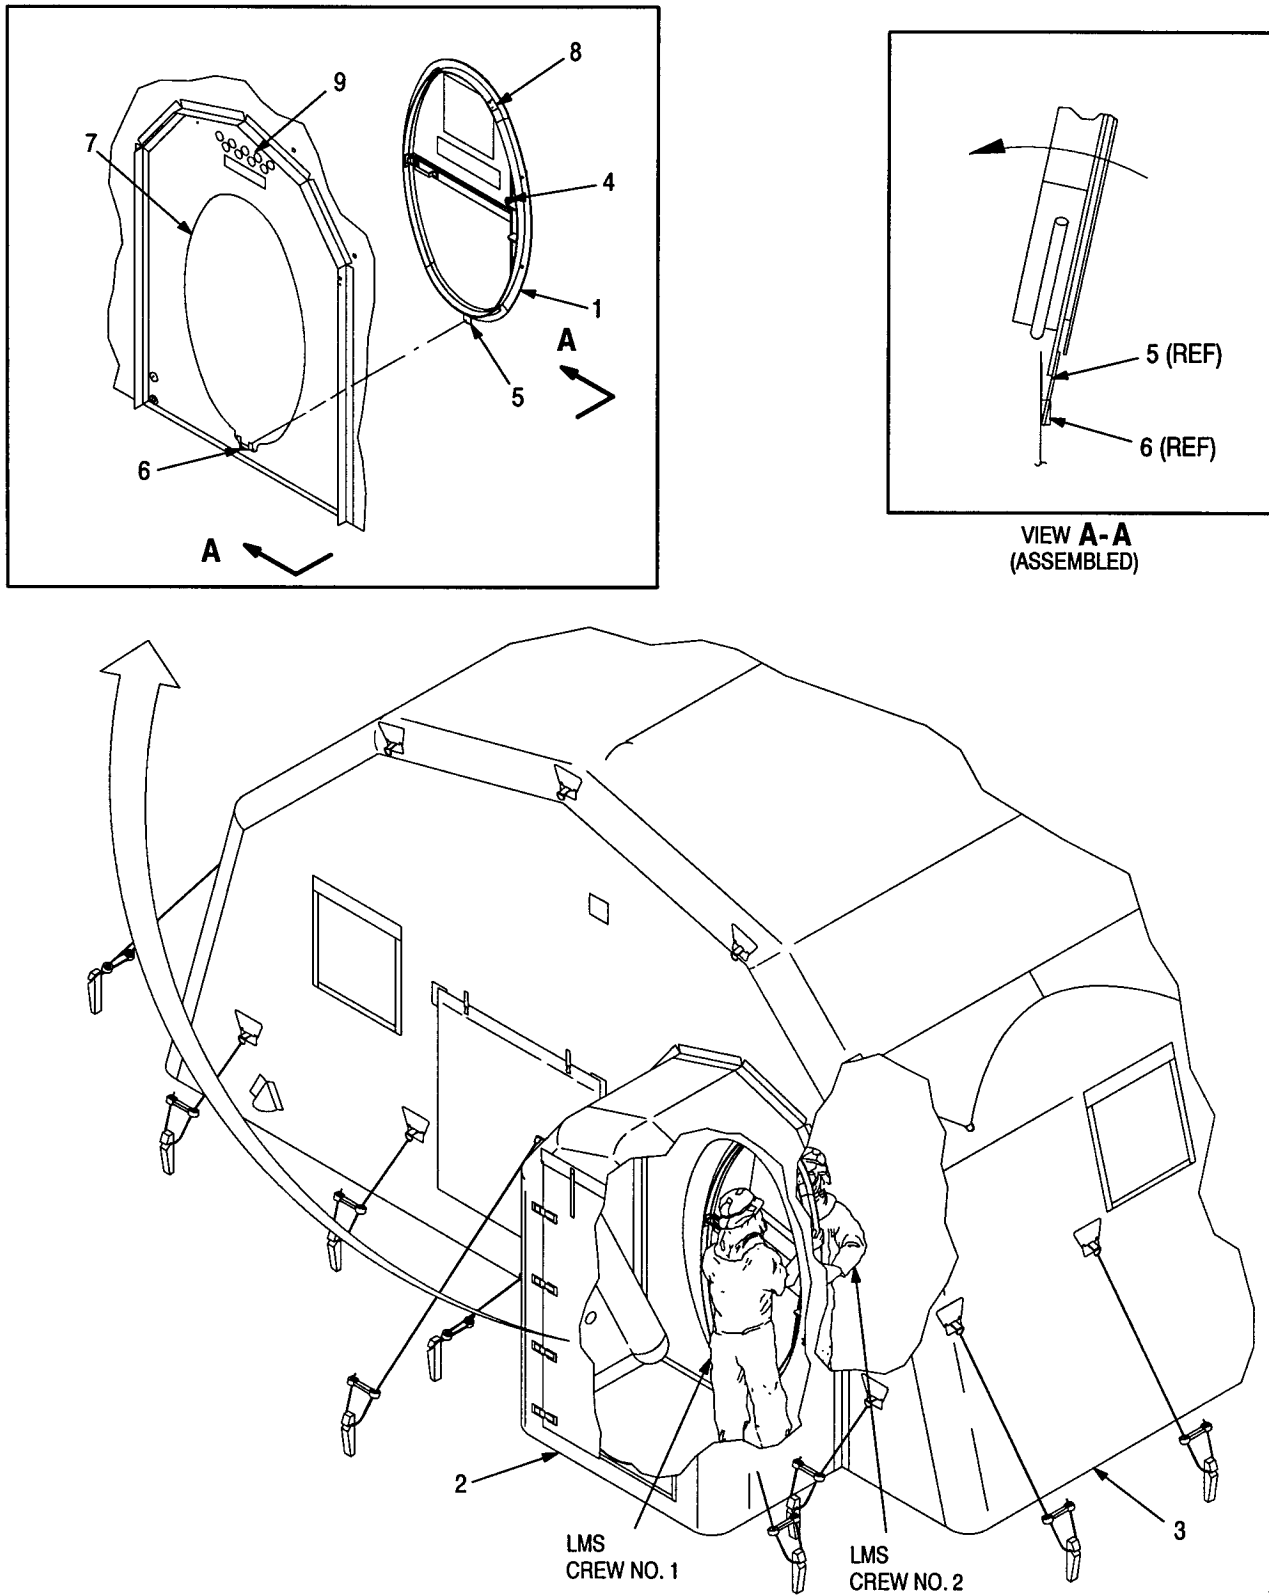

Figure 2-41. Installing Inner Ambulatory Airlock Door
- (8) Open holes on vents (8) of door (2) by pulling back fastener hook and fastener loop cover.
- (9) Locate inner ambulatory airlock door in LMS (1, figure 2-41).
- (10) To install inner ambulatory airlock door (1), LMS crew member no. 1 takes position inside ambulatory airlock (2).
- (11) LMS crew member no. 2 stands inside ABS (3) and positions door (1) with timer (4) facing into ambulatory airlock (2).
- (12) LMS crew member no. 2 places metal tab (5) on bottom of door (1) into fabric loop (6) on bottom of door opening (7), and positions and supports door (1) for assembly from inside ABS (3).
- (13) LMS crew member no. 2 starts fitting reinforced cable on door opening (7) around frame of door (1) from bottom up.
- (14) LMS crew member no. 2 carefully secures fastener hook and fastener loop tape on each side of door (1) working from bottom of door (1) to top until secured.
- (15) LMS crew member no. 1 engages five spring clips (8) on door (1) to secure frame of door (1) to ambulatory airlock (2).
- (16) LMS crew no. 1 enters ABS (3) through door (1), closes it, and opens holes on adjustable vent (9) of the door (1) by pulling back fastener hook and fastener loop cover until NBC SHELTER PRESSURE gage (located on rear control panel in LMS) reads 0.5 iwg.
- (17) LMS crew waits for cab crew to complete installation of outer TALP airlock door.